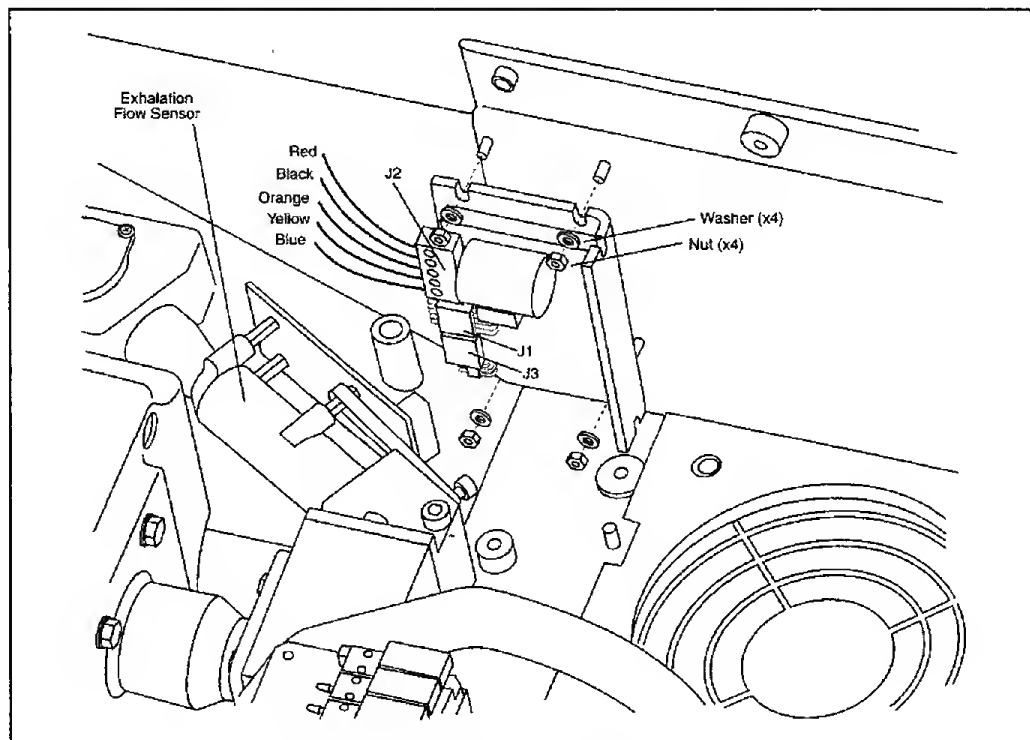

Figure 7-29: Blower Controller PCBA
(Refer to Figure 7-29)
10. Disconnect the blue, yellow and orange wires from connector J2 on the Blower Controller PCBA by loosening the screws in the connector (see Figure 7-29).
11. Disconnect the cable (BLOWER J1) from connector J1 on the Blower Controller PCBA (see Figure 7-29).
4. Connect the cable (BLOWER J1) to connector J1 on the Blower Controller PCBA (see Figure 7-29).
5. Connect the blue, yellow and orange wires to connector J2 on the Blower Controller PCBA (see Figure 7-29).
10. Disconnect three black and three red wires from connector J2 on the Blower Controller PCBA by loosening the screws in the connector (see Figure 7-29).
3. Connect the three red and three black wires to connector J2 on the Blower Controller PCBA (see Figure 7-29). Once fastened, gently tug on the wires to ensure a good connection.